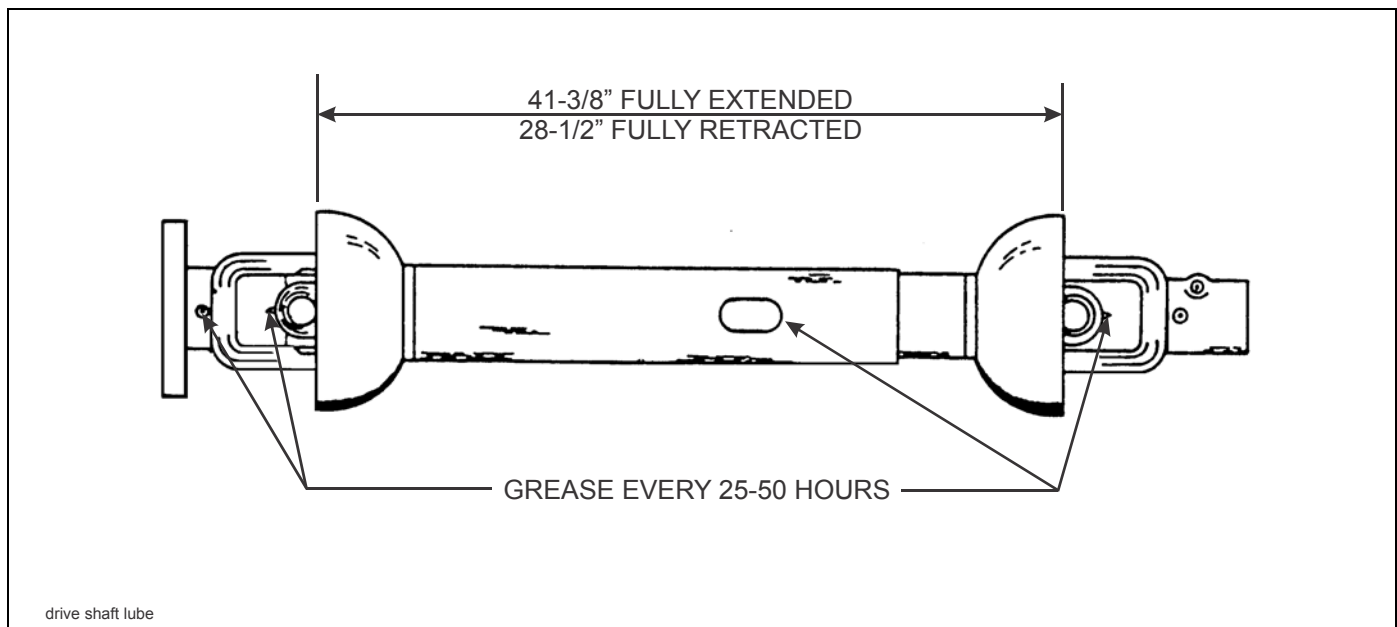

Figure 4-6: Drive Shaft Lubrication
3. Lubricate the drive shaft with a good grade of Lithium Soap Base Grease every 25 to 50 hours of operation (**See Figure 4-6.**) Remove the male end of the drive shaft and pack tube with a generous amount of grease. The drive shaft has four grease fittings.